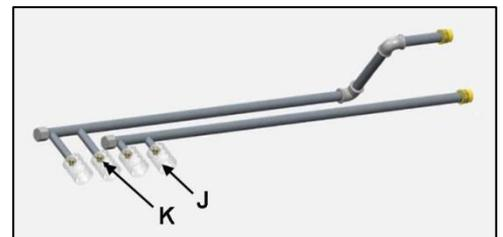

Fig. 5.9
- With the ducts removed and out of the machine, change the injectors (**K**) and the deflectors (**J**) in accordance with the new type of gas. (See the injector values in the table in Section 4.3.1). (Fig. 5.9).